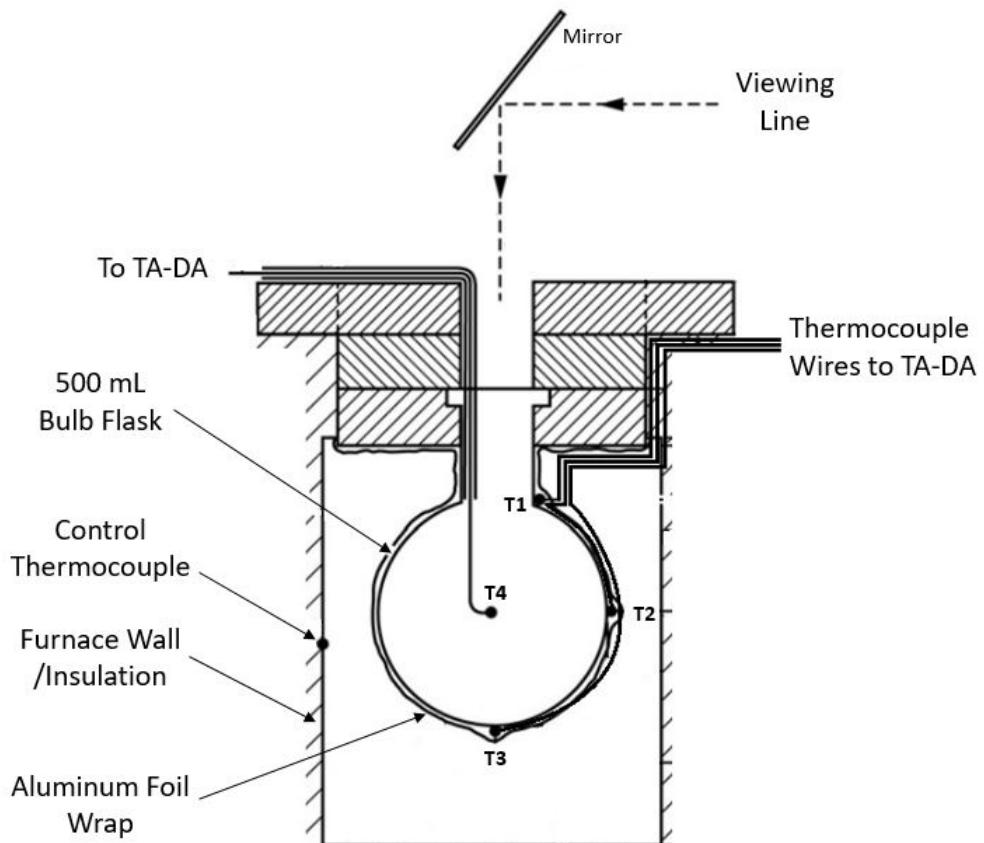

Figure 11: Diagram of the furnace when assembled
22. The final setup should resemble Figure 11